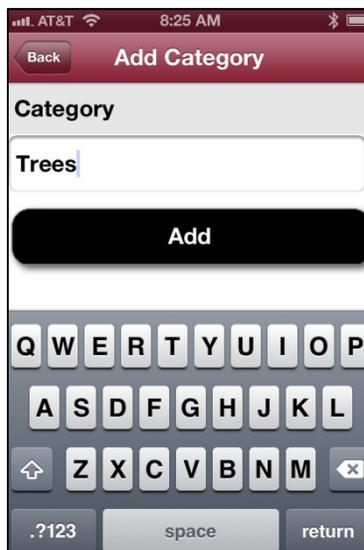

Figure 9
3. Enter the category name. In this example, "Trees" is used (Figure 9).